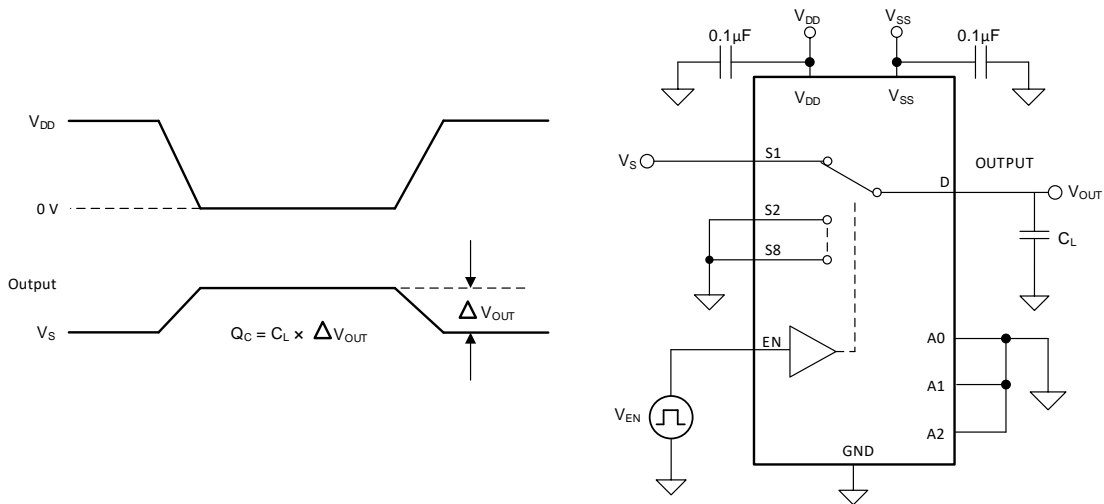

图 24. Charge-Injection Measurement Setup
The TMUX1108 has a transmission-gate topology. Any mismatch in capacitance between the NMOS and PMOS transistors results in a charge injected into the drain or source during the falling or rising edge of the gate signal. The amount of charge injected into the source or drain of the device is known as charge injection, and is denoted by the symbol  $Q_C$ . 图 24 shows the setup used to measure charge injection from source (Sx) to drain (D).